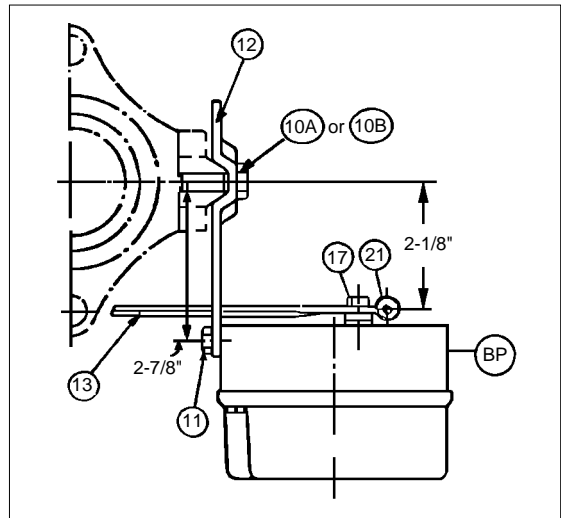

Figure 4
3a. On yokes with a rib, attach the positioner's mounting bracket (12) in accordance with the dimensions of Figure 4 to the actuator yoke. Use the center hole of the mounting bracket (12) for attachment using the rib mounting bracket (12) will give the proper dimensions. (Figure 4 is shown as right-hand; if left-hand is required, then dimensions are mirror-imaged.)
3b. On yokes without a rib, attach the positioner's mounting bracket (12) in accordance with the dimensions of Figure 4 to the actuator yoke. Use two yoke mounting screws and nuts (10B) and the two holes closest to the frontal position when properly rotated. (Figure 4 is shown as right-hand; if left-hand is required, then dimensions are mirror imaged.)
6. Remove the positioner cover (WC). Orient the unit so that the DAMPING & GAIN labels are top/center, and the gauges (1A & 1B) are right side up.
7. Fasten the positioner baseplate (BP) to the mounting bracket (12) using the two mounting screws (11) (See Figure 4).
8. With the actuator at zero stroke ("LOAD" = 0 psig; i.e. no air to actuator diaphragm), attach the feedback lever (13) on the main shaft (17) (Figure 4) of the positioner with the feedback carrier bolt (14) located in the feedback lever's (13) slot. The compensating spring (18) must be located above the feedback carrier bolt (14) when the unit mounting is on the right (See Figure 6A), and below the feedback carrier bolt (14) when the mounting is on the left. (See Figure 6B). Hand tighten socket cap screw (21) (Figure 4); **DO NOT WRENCH TIGHTEN!**
- b. Release all tension on range spring (41) by turning zero thumbscrew (39) CCW.
- c. See Figure 4; loosen screw (21) securing the feedback lever (13) on the backside of the unit to the main shaft (17) using the #5 (5 mm) metric Allen wrench provided. Manually move the stroke factor lever (19) away from the tip of the stop pin (20) a distance of approximately 1/4" - 3/8" using some form of spacer; i.e. folded cardboard, etc. Retighten feedback lever (13) to main shaft (17). Remove the temporary 1/4" - 3/8" spacer.